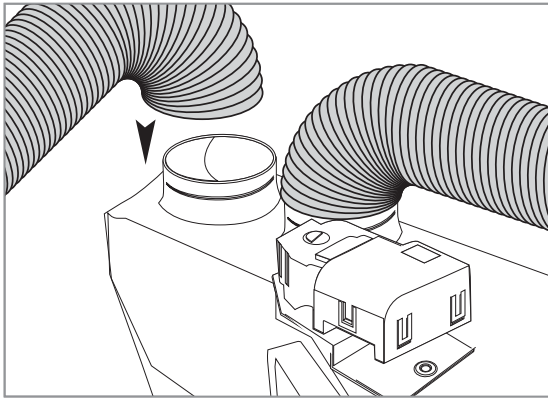

FIGURE 29
**The following steps are for left and right Defrost Diffusers:** Locate and route the duct hoses from the defrost/heat duct assembly (see figure 29) upward toward the defrost adapter diffusers. Next locate and install defrost adapter diffusers from the top of the dash and secure with v-clips supplied. Attach flex hose to the defrost diffuser adapters using zip-ties. Push adapters onto diffusers from below. The other end of the duct hose is installed over the defrost/heat duct assembly outlets on main unit (see figure 30 and the diagram below).